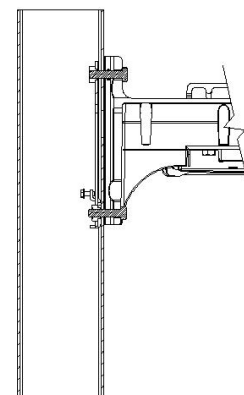

FIGURE 4
- Install 3/8 bolt, lock washer and washer in top hole as shown and tighten into nut plate. (See Figure 4.)
- Install 3/8 bolt, lock washer and washer in top hole as shown and tighten into nut plate. (See Figure 4).